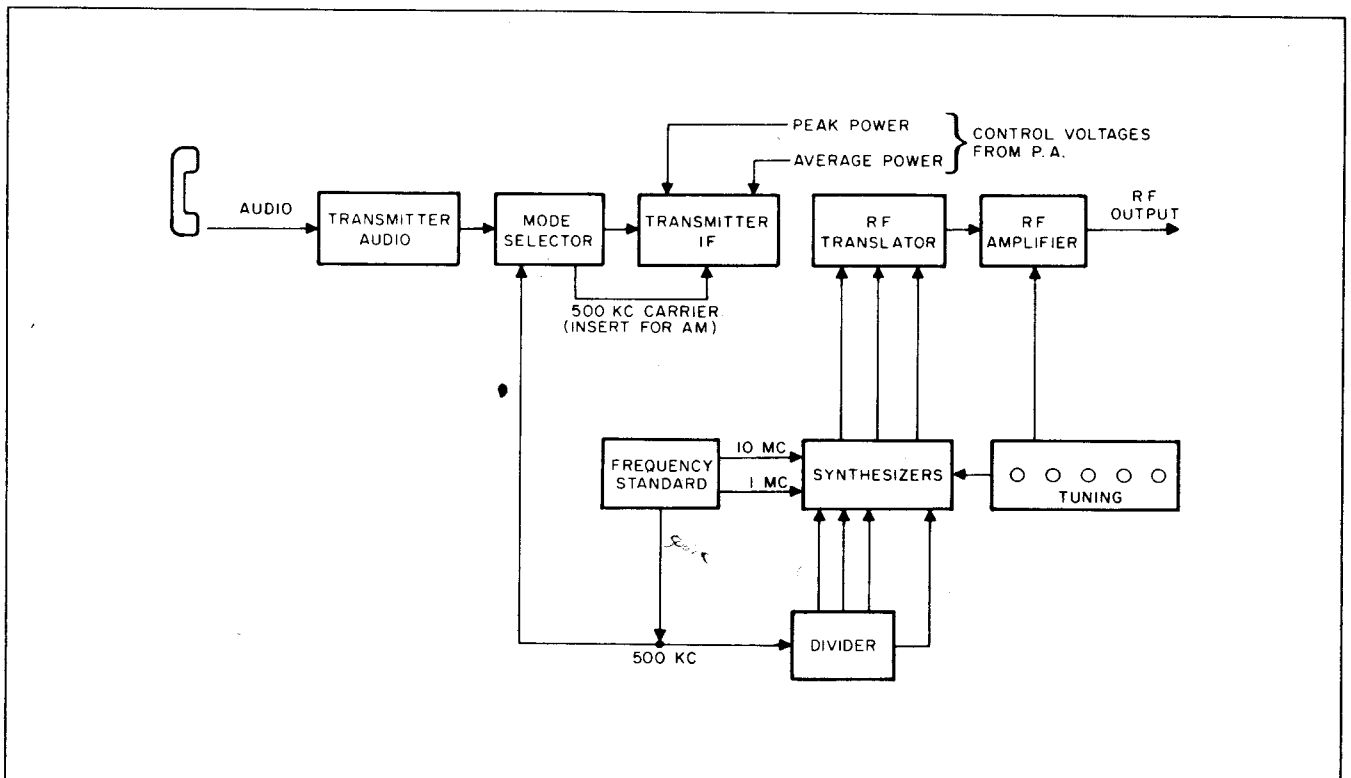

Figure 2-1. Transceiver SC-901X, Transmit Functional Block Diagram
2.1.2 Operation. (See figure 2-1)